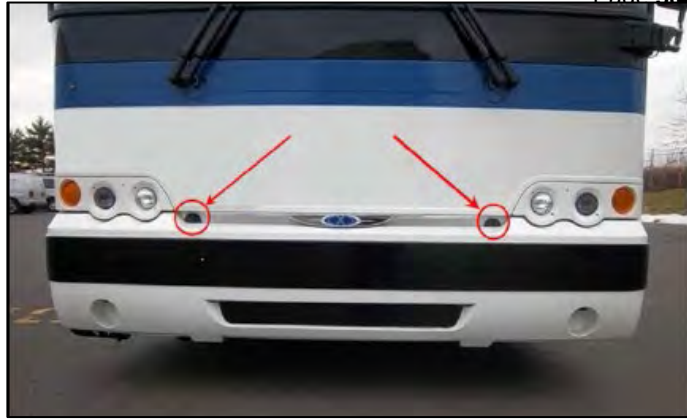

Figure 4
3. On the front of the vehicle, gain access to the front compartment (a.k.a. the spare tire compartment) by removing the front bumper retaining bolts. (Fig. 4)